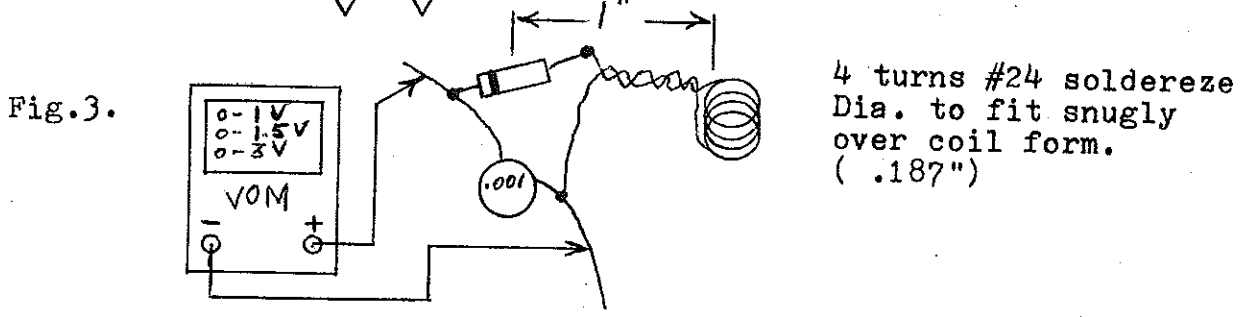

Fig.3.
2. An RF detector. See fig. 3.
3. Slip the detector loop over L1, making sure that it is right around the coil winding itself. Switch the VOM to the lowest voltmeter scale available. Connect the meter leads to the detector as indicated in fig. 3.